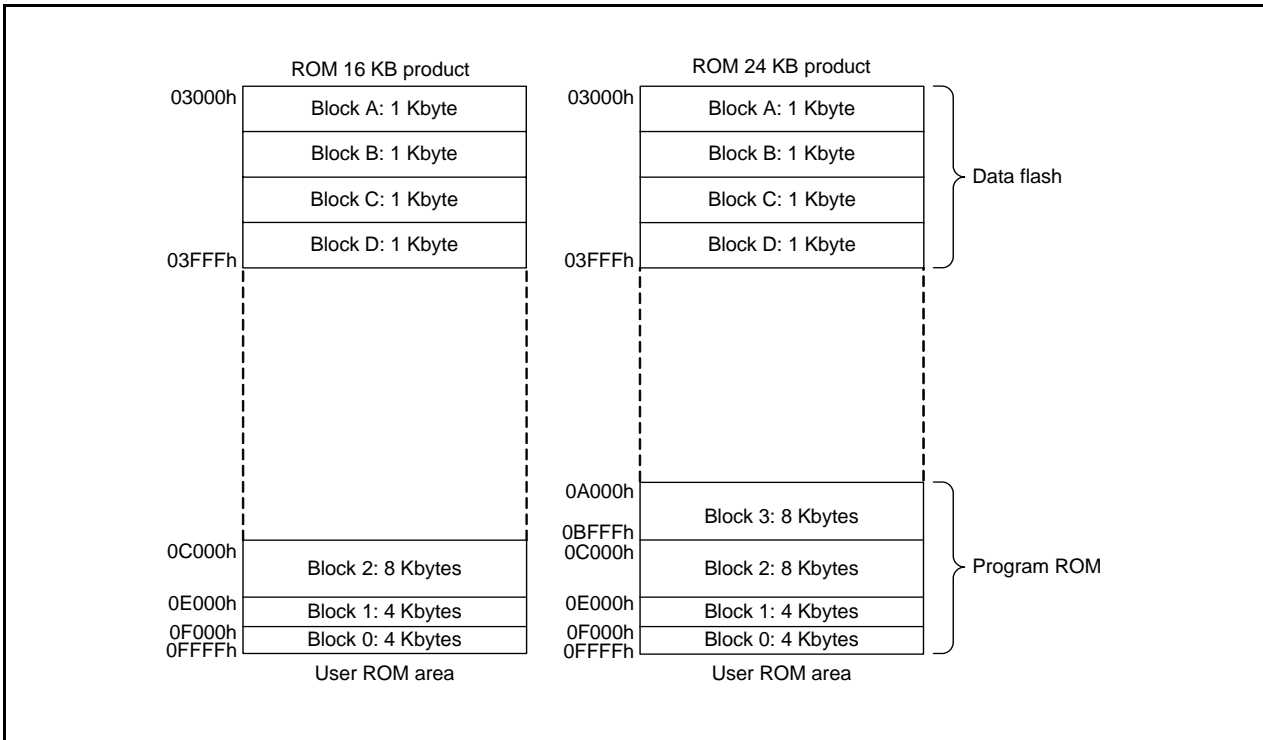

Figure 34.1 R8C/38A Group Flash Memory Block Diagram (1)
- The number of blocks and block division vary with the MCU. Refer to **Figures 34.1 and 34.2 R8C/38A Group Flash Memory Block Diagram** for details.
Figures 34.1 and 34.2 show the R8C/38A Group Flash Memory Block Diagrams.